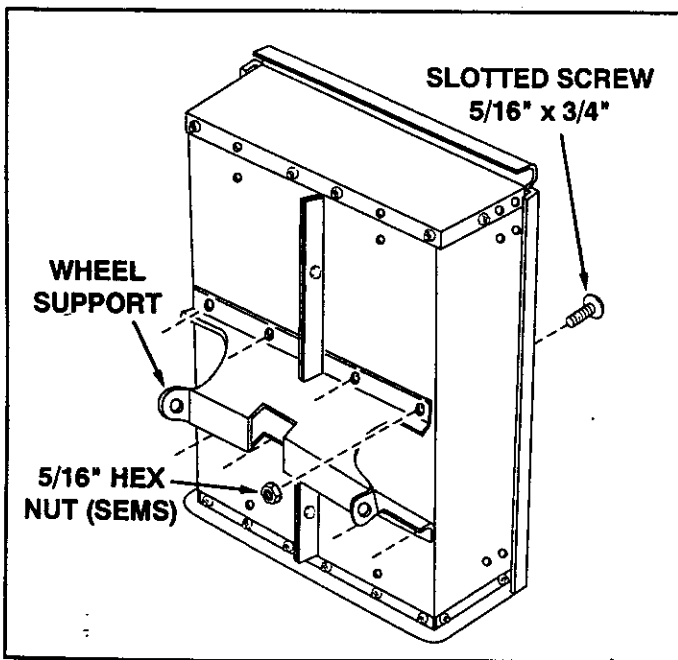

FIGURE 5
- Assemble the wheel support to the bottom of the cart using eight 5/16" x 3/4" slotted head screws and 5/16" hex nuts (SEMS) as shown in figure 5. Heads of screws go to the inside of cart. **Tighten**.